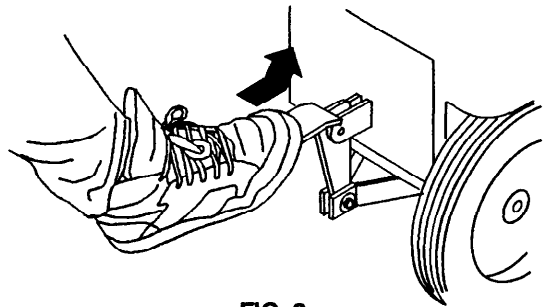

FIG. 8.
- Lower dispenser assembly to floor. Push pedal forward to release from transport position. (Figure 8)